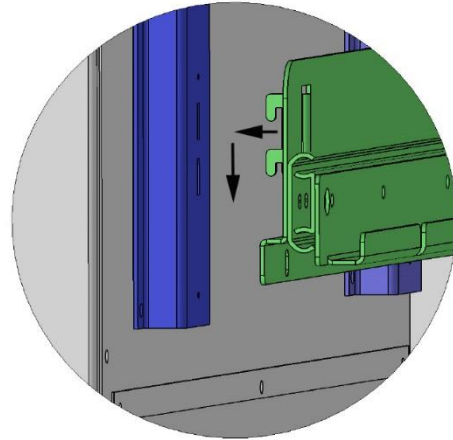

Figure 6: Sliding Shelf Mounting Bracket Installation
2. Slide the bracket down so that the tabs are securely seated in the mounting slots. See Figure 6.